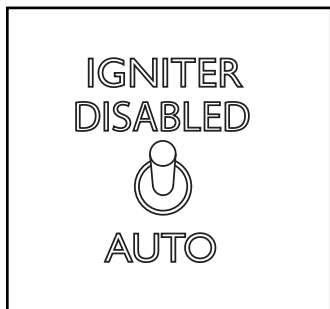
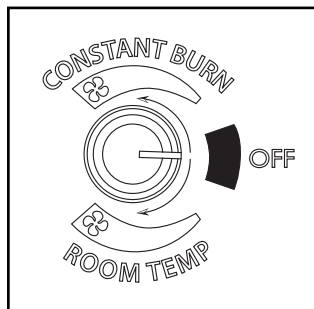

Figure 4.4
Figure 4.5
4. Flip toggle switch to desired mode "auto or Disabled". Figure 4.4. Set Feed Limit knob to desired setting and turn mode dial to "Room Temp" or "Constant Burn" Figure 4.5.